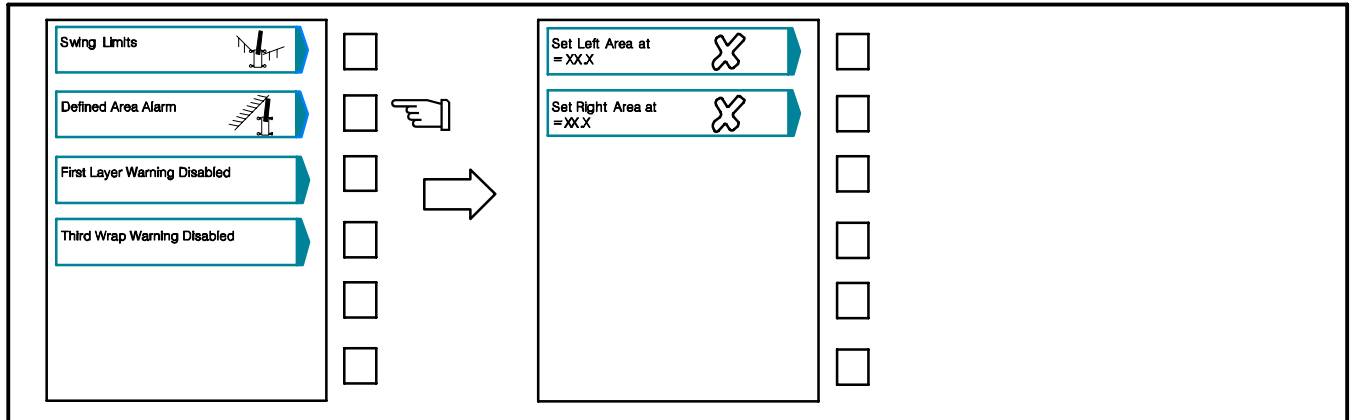

Figure 1–95
5. Select the winch drum to monitor by using the winch drum selector switch located on the gauge and control panel. Refer to Figure 1–51
The operator defined area alarm, when set, will define an imaginary vertical plane between two set points to optimize the working area. When approaching the plane, the audio alarm will sound intermittently, and the message “Bad Working Area” will appear in the warning message area. When passing the plane, the audio alarm will sound continuously and the message “Bad Working Area” will appear on the warning message area. Use the following procedure, Figure 1–95, and Figure 1–96 to set the operator defined area alarm.